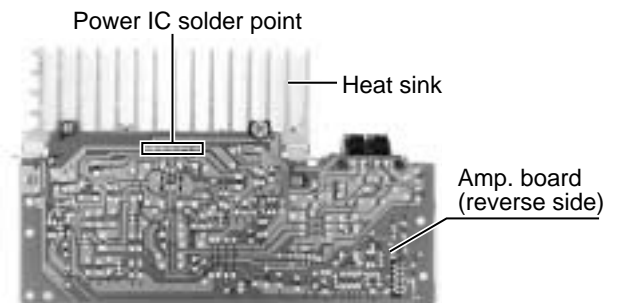

Fig.15
■ Removing the power IC (See Fig.15 and 16)